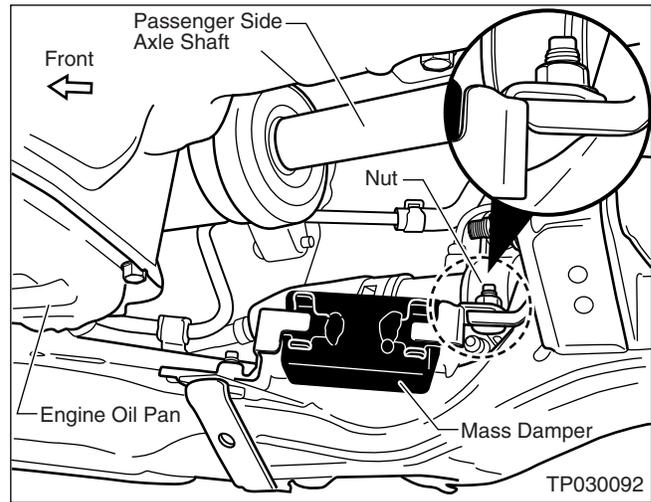

Figure E16
20. Remove the the Mass Damper Nut as shown in Figure E16.